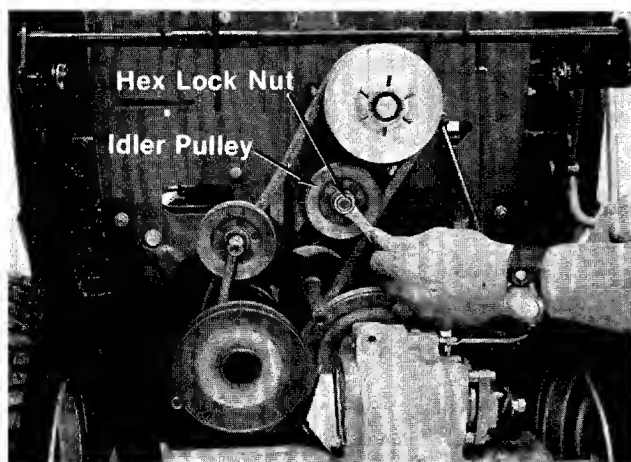

FIGURE 40.
7. Remove the idler pulley by removing the hex lock nut. See figure 40.